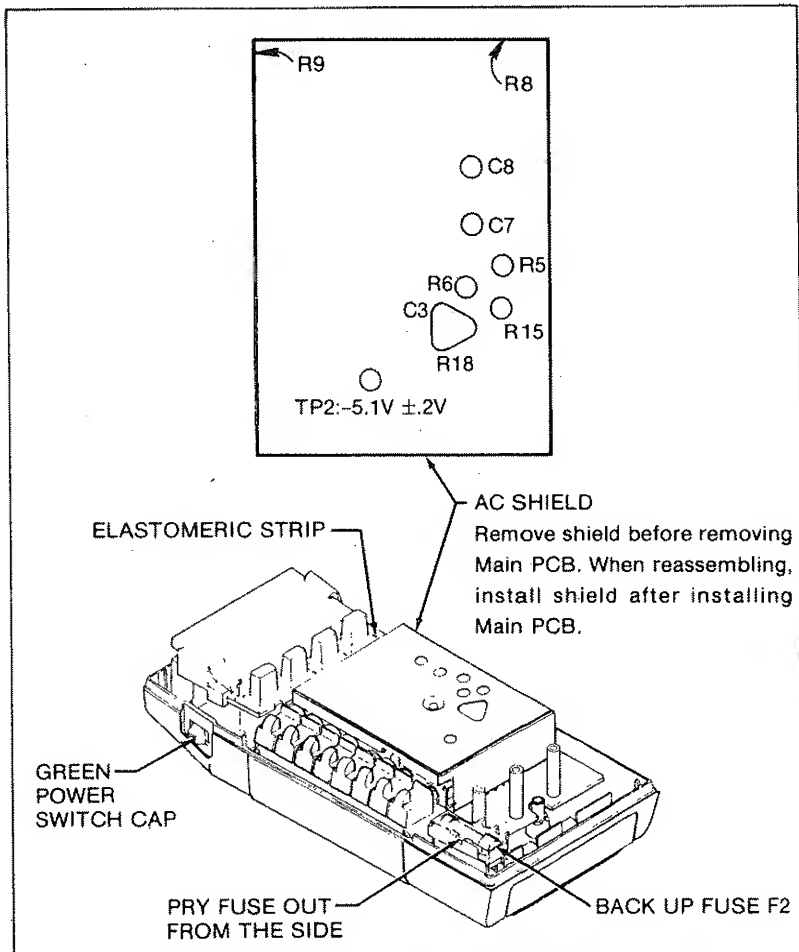

Figure 5-1. Calibration and Backup Fuse (F2) Access
3. Turn the instrument face-up and grasp the top cover at both sides of the input connectors. Then pull the top cover from the unit. The backup fuse and the calibration adjustments are now accessible (Figure 5-1).
The function buttons below the display are part of a single elastomeric strip (Figure 5-1) that is held in place by the top cover. When the top cover is removed, the elastomeric strip will be loose and
2. Use a flat-tipped screwdriver to pry the fuse out of its fuse holder. Pry the fuse from the side as indicated in Figure 5-1.